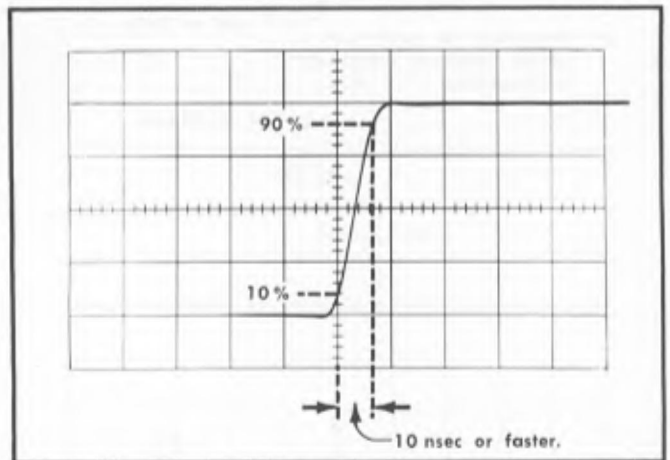

Fig. 5-13. Measuring the risetime of a normal waveform when SW1000 is actuated; sweep rate is 10 nsec/cm.
- b. Depress the Transient Response Compensation SW1000 (see Fig. 5-12a). Check risetime between the 10% and 90% points on the rising portion of the waveform (see Fig. 5-13). Overall risetime should not be any slower than 10 nsec.